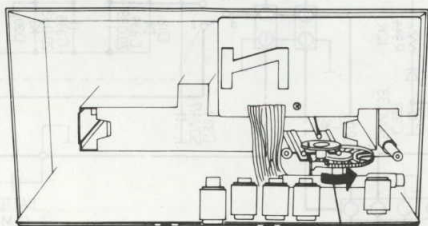

Fig. 11
* 4 When assemble the front cabinet, turn the dial drum to fully clockwise and set the dial pointer at the position as shown in Fig. 11 and 12.